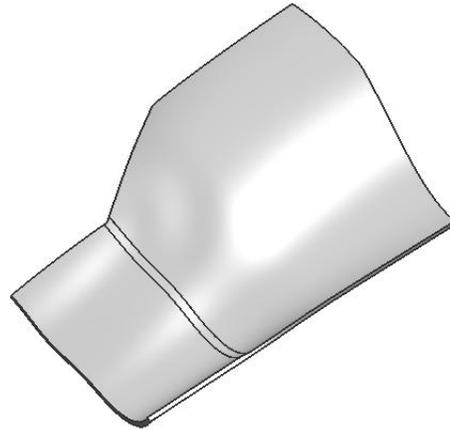

Figure 2–50
1. Open **MODEL_SETUP_B.prt**. The model displays as shown in Figure 2–50.